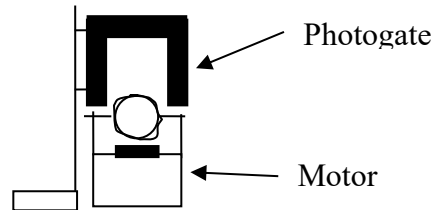

Fig. 8 Motor operation with photogate.
9. Get your coil spinning under the photogate so that the top of the coil intercepts the photogate beam as shown in Fig. 8. With the coil spinning in the photogate, click **Collect** and allow the computer to acquire data for a few seconds.